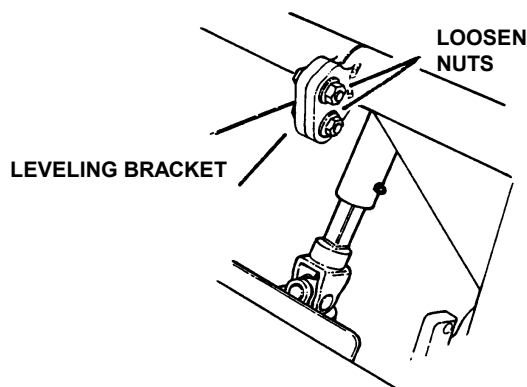

FIGURE 5.2
4. Loosen leveling bracket at center rear deck support. See Figure 5.2. This allows the lift arm to settle down into hitch brackets.